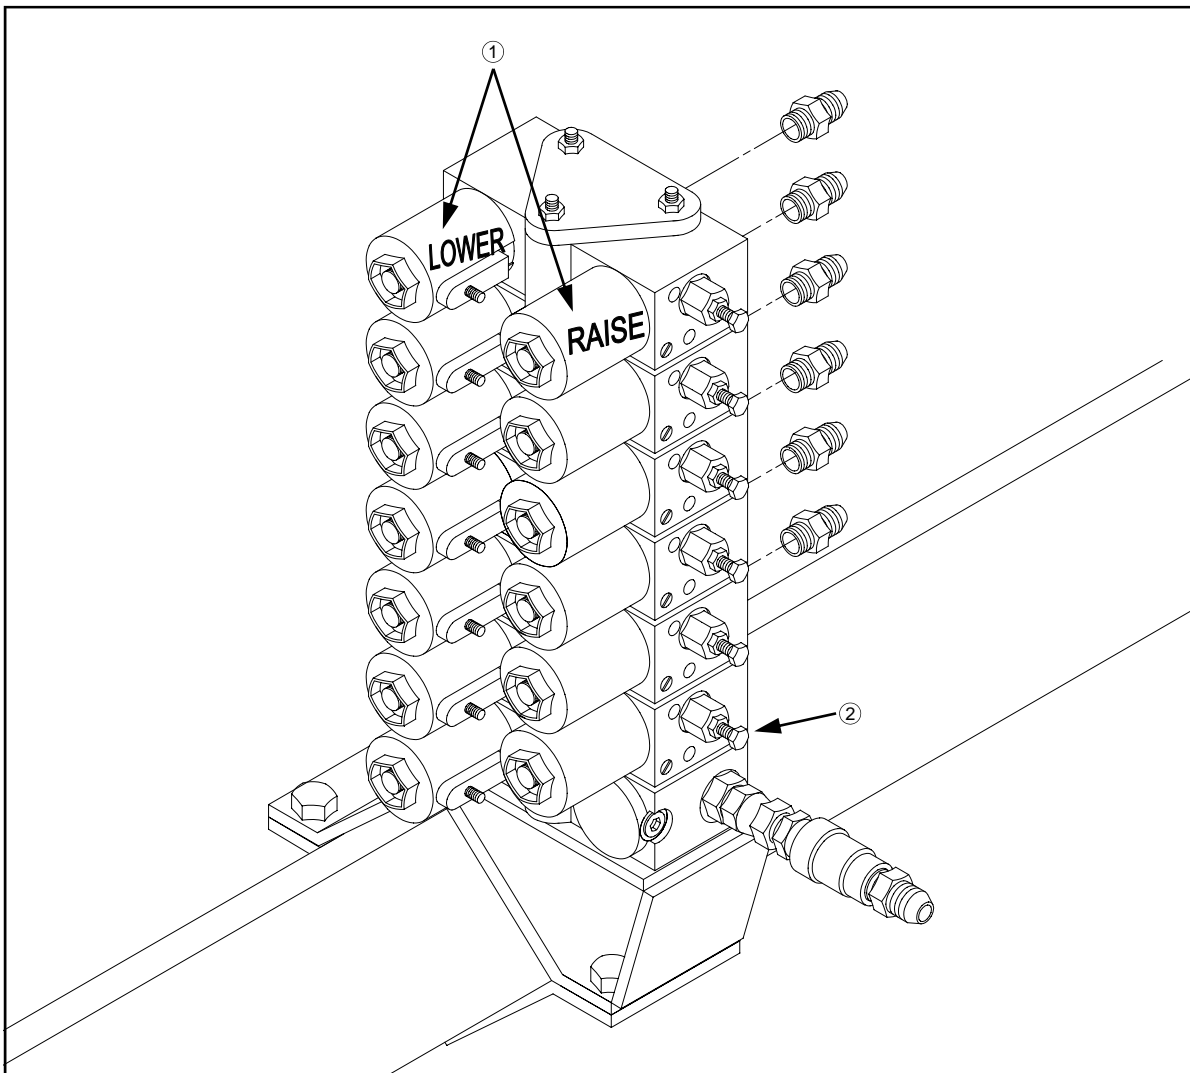

FIG 4.3
LIFT STACK VALVE – The electro-hydraulic valves which control the height of the detasseler head lift cylinders are equipped with adjustable raise and lower orifices controlled by independent coils (fig 4.3, item 1). Upon initial setup adjust the orifice screws (fig. 4.3, item 2) as follows, then see page 29 for more precise adjustment: